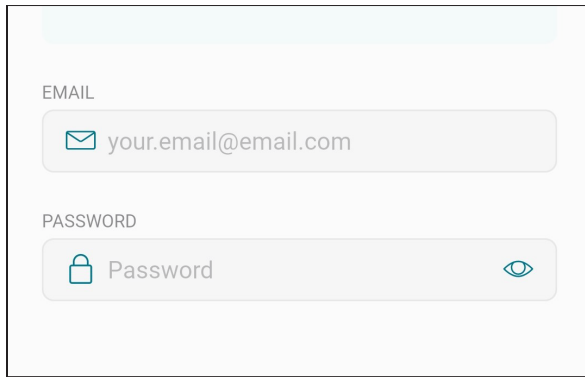

Figure 78. Log in the Raymote Mobile App
3. Open the Raymote mobile app and log in with your user name and password. See **Figure 78**.